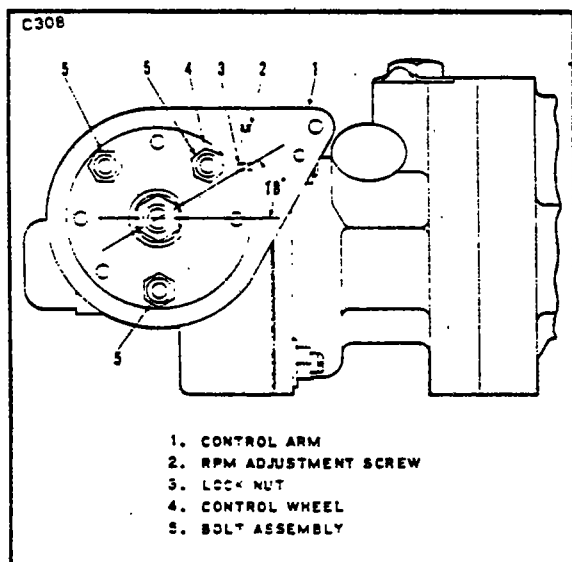

Figure 8-5. Propeller Governor (PA-28-235)
(Refer to Figure 8-5.)
5. Ascertain that the governor control arm is adjusted to the proper angle on the control wheel (4) as shown in Figure 8-5.